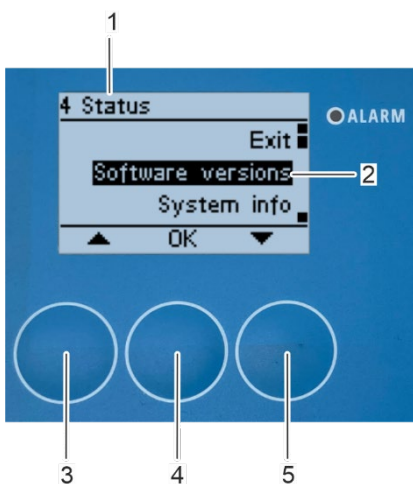

Fig. 172: Open submenu "Software versions"
- ⇒ The "4 Status" submenu appears on the display (Fig. 172/1).
1. Select the "Software versions" submenu (Fig. 172/2) with the arrow keys [up] (Fig. 172/3) and [down] (Fig. 172/5).
2. Confirm the selection with [OK] (Fig. 172/4).